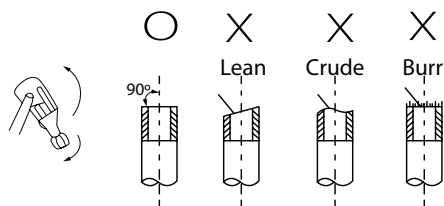

FIG. 7-1
- Cut a pipe with a pipe cutter. (Refer to Fig. 7-1)